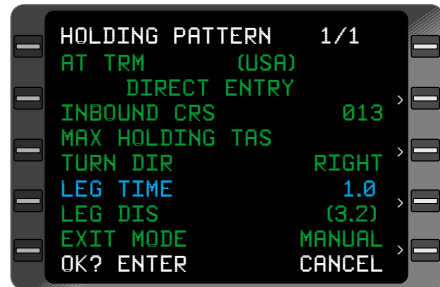

Figure 3-110
- HOLD** Key - DEPRESS to display **HOLDING PATTERN** Page. (Figure 3-110)